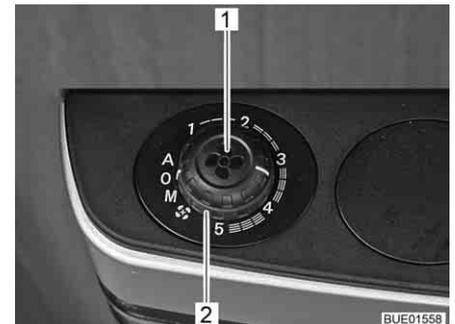

Fig. 144 Knob and rotary switch for fan control
- Set the rotary switch (Fig. 144,2) to the required operating mode.
- Turn the rotary switch (Fig. 144,2) to "0".